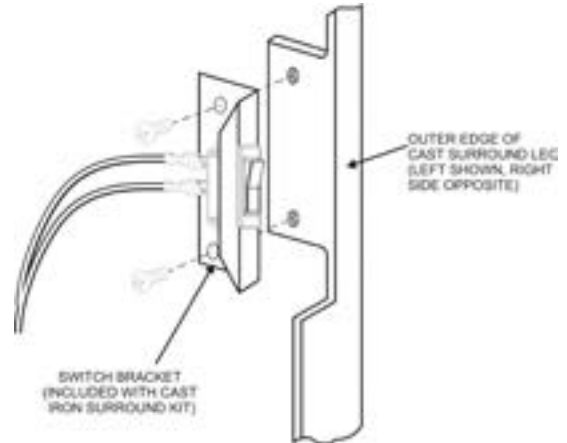

Figure 14
4. Install the switch bracket with screws as shown in **Figure 14** to the back of the cast surround leg.